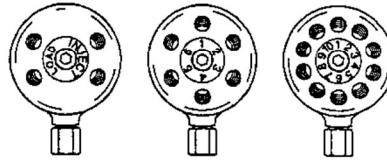

Figure 3:
4. The cap can go on two ways. Install it over the alignment pins with port number 1 opposite the air inlet. (Figure 3)